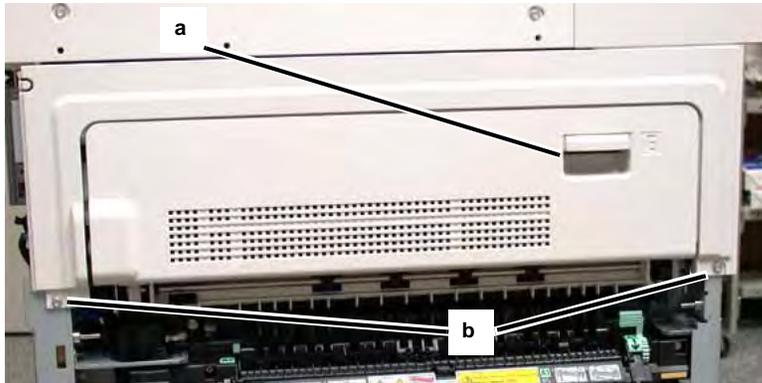

Figure 7 Removing Screws
8. Remove the Left Upper Cover (Figure 7).
- b. Remove the Screws (2) and Cover.